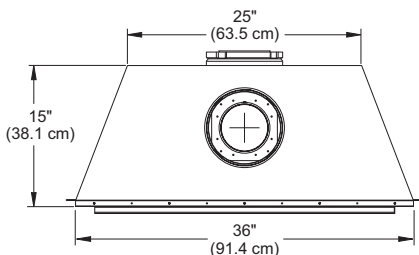

Figure 3 - Fireplace Bottom Dimensions
- If your fireplace is to be installed directly on carpeting, vinyl tile or any combustible material other than wood, it must be installed on a metal or wood panel extending the full width and depth of the fireplace. See Figure 3, page 6.